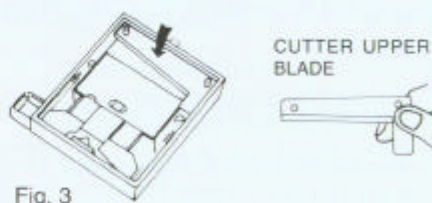

Fig. 3
5. Set the CUTTER UPPER BLADE. The coated face (shiny) should come upward. (Fig. 3)